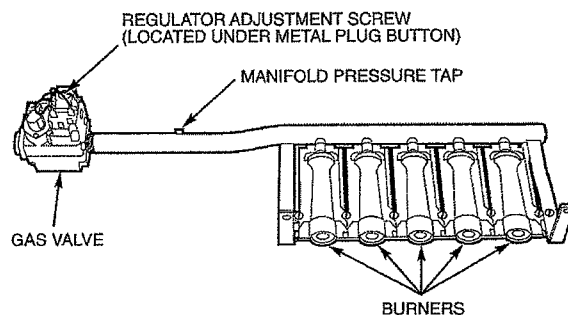

Fig. 65 — Burner Tray Details
- Slide the burner tray out of the unit (see Fig. 65).